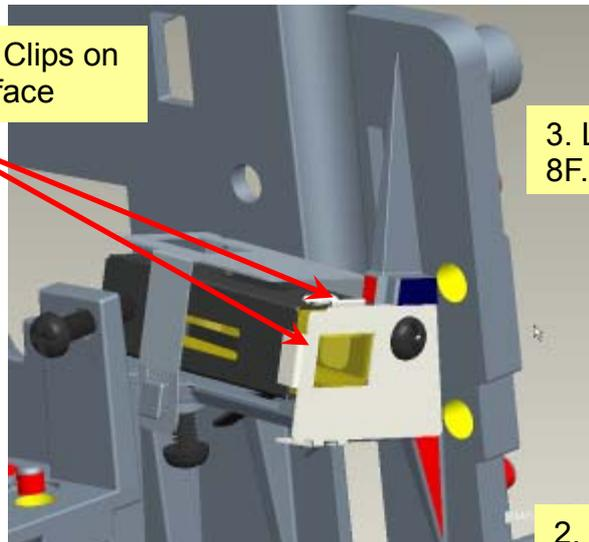
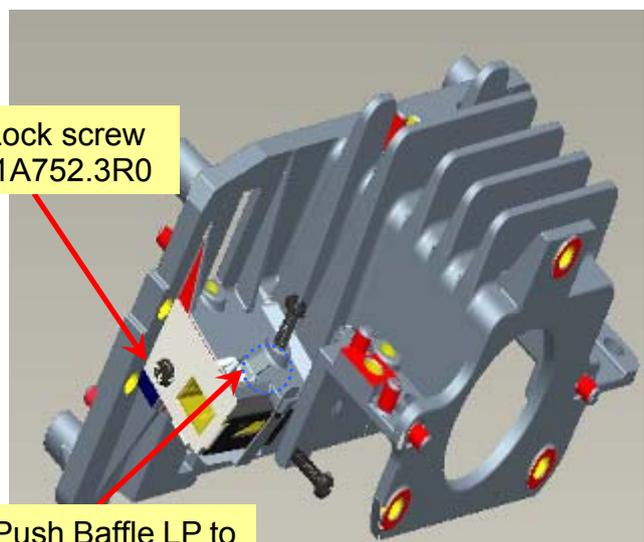

Fig. 4-8-1
Fig. 4-8-2
- v. Assembly “Baffle LP” first (Fig. 4-8-1) & push “Baffle LP” to hook DMD HSG, and then lock with screw well (Fig. 4-8-2).